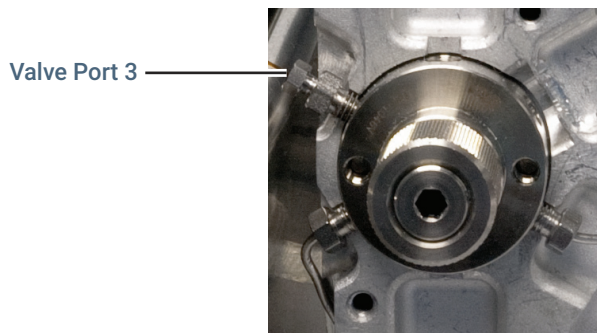

Figure 25. Valve Port 3
- 6 The transfer line will install in valve port 3 (at the 10 O'clock position), as shown in **Figure 25**.